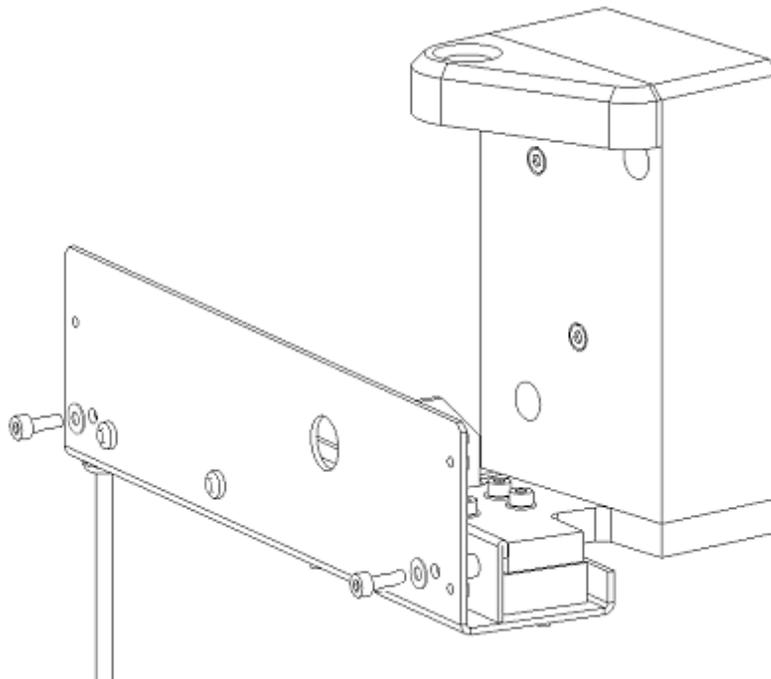
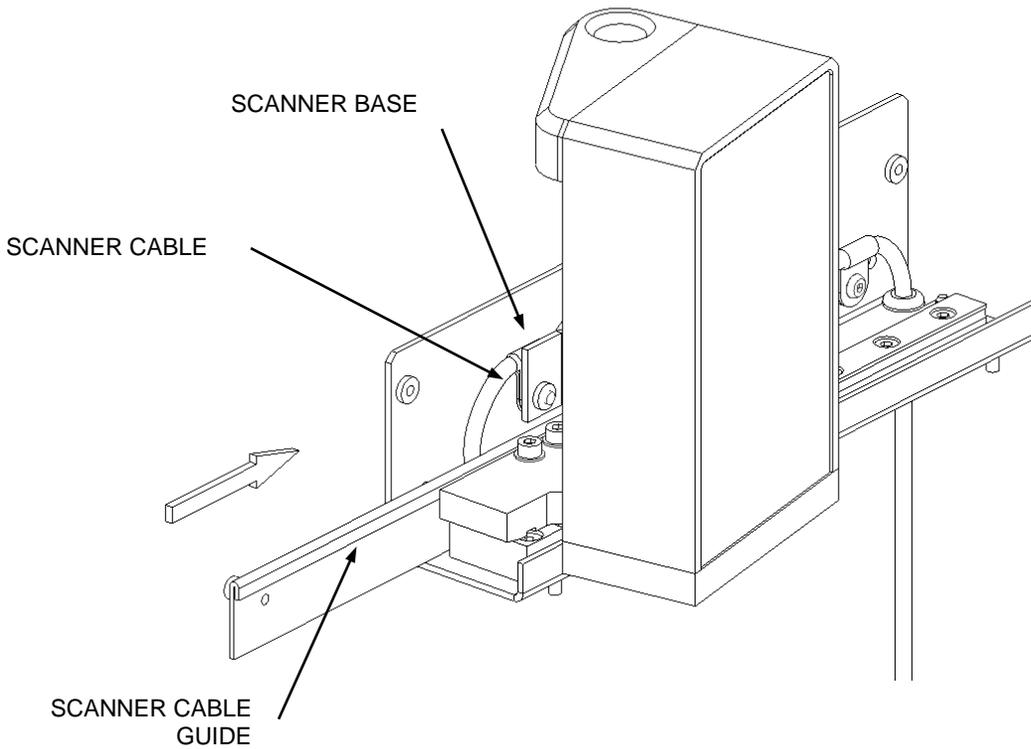

Figure 11-5: Scanner Cable Guide Screws
Figure 11-6: Location of Scanner Cable Guide
3. Remove the Scanner Cable Guide by removing the two screws in Figure 11-5. The guide is shown in Figure 11-6.